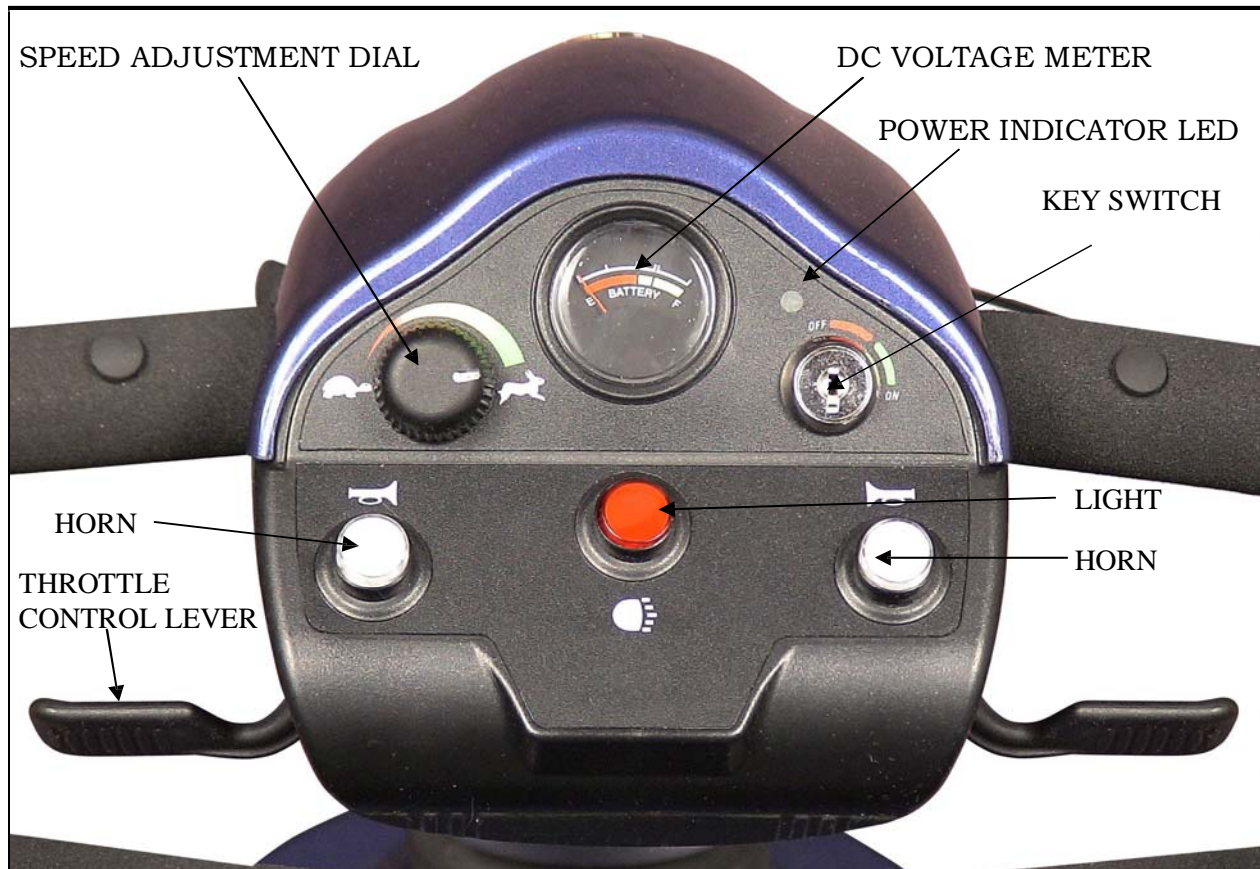

FIGURE 5. CONTROL PANEL
- The speed adjustment dial allows you to select the maximum top speed of your Golden Companion. See figure 5.
This switch turns the power on and off to your Companion. See figure 5.
When the power to your Companion is turned on, the Power Indicator LED (Light Emitting Diode) will light up. See figure 5 on page 14. This LED is used for diagnosing operational problems that may arise. Please see the Diagnostics section of this manual.
Press this button to sound the horn. See figure 5 on page 14.
This button operates your Companion's lighting system. See figure 5 on page 14.
The Delta Tiller enables you to use only one hand (either the right or left) to operate both the speed and the direction of the Companion. This self-centering lever system controls your Companion's speed (up to the maximum speed set by the speed adjustment dial) and its forward and reverse direction. See figure 5 on page 14.
This meter (see figure 5 on page 14) shows the amount of voltage in your Companion's batteries.